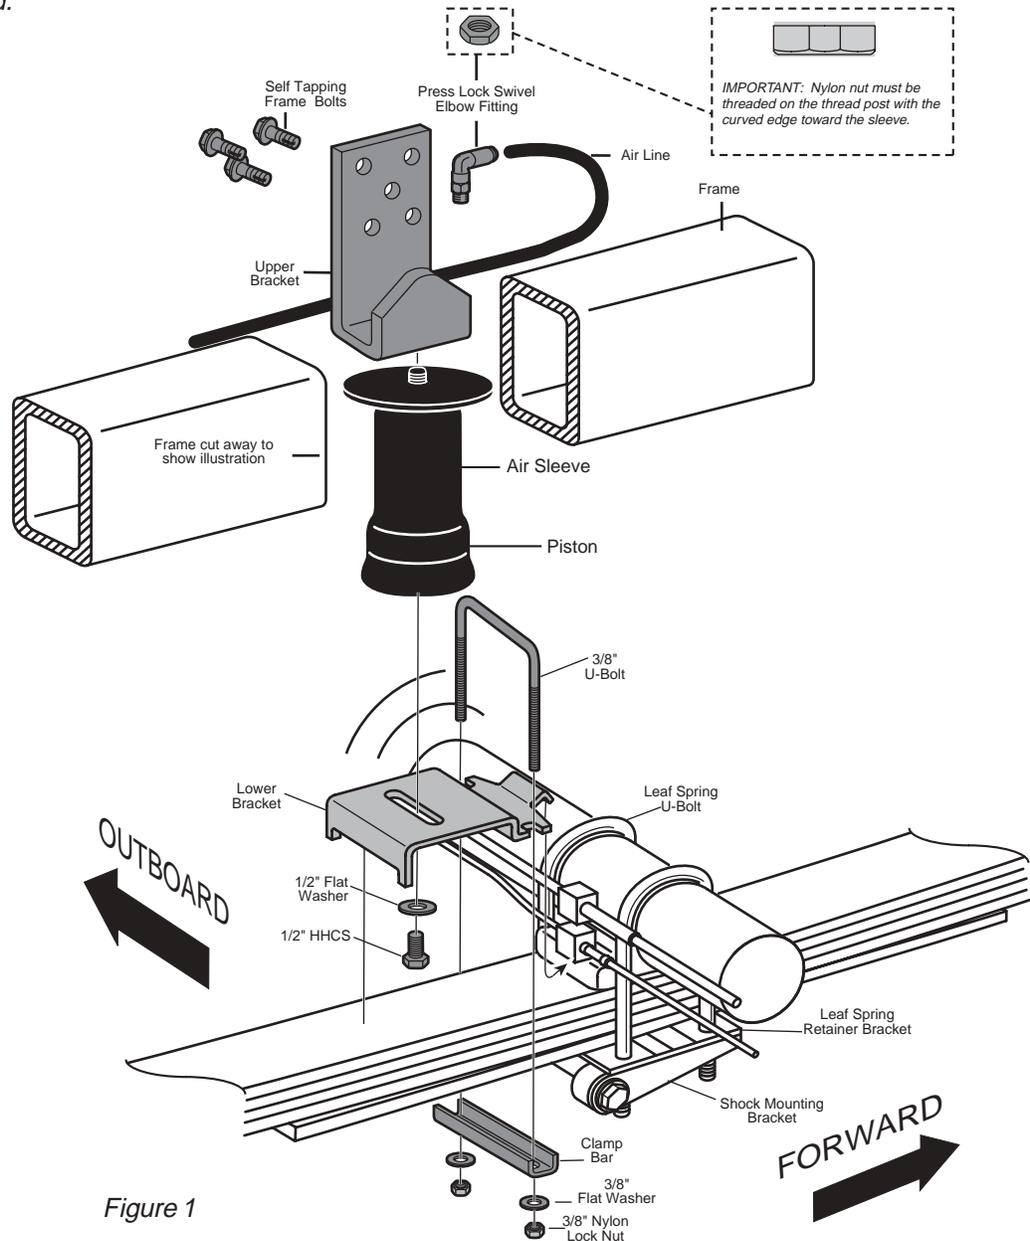
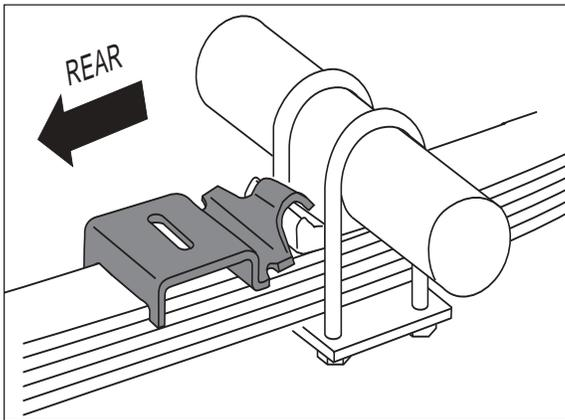
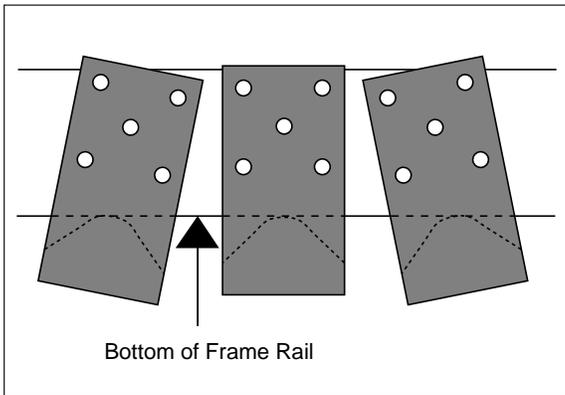
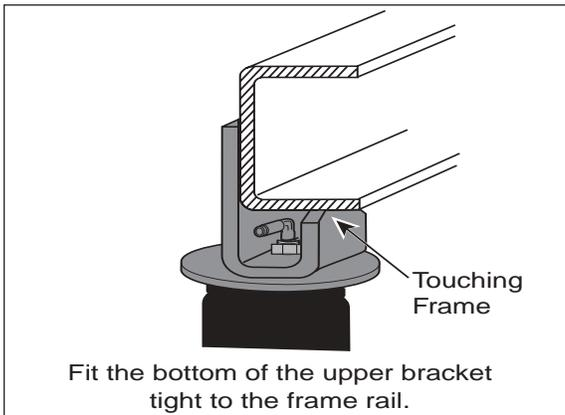

Figure 1
Figure 3
Figure 4
Figure 5
2. Thread the attached air fitting through the bottom of the J-bracket. Position the elbow towards the front or rear of vehicle depending on which direction will allow easier access for the air line (Figures 1 and 2). Slide the provided nylon nut over the air fitting and onto the threaded post. Tighten the nylon nut hand tight to secure the bracket (Figure 1).
3. **LOOSELY** attach the lower brackets to the bottom of the sleeve using the provided $\frac{1}{2}$ " flat washer and the $\frac{1}{2}$ " bolt as shown in Figure 1.
1. Set the assembly on the leaf spring behind the axle. Install the lower bracket as shown in Figures 1 and 3 over the edge of the upper spring retainer plate (Figure 3). Tighten nuts to 16 ft.lbs.
2. The upper bracket must be parallel and perpendicular to the lower bracket. The upper bracket is designed so that it can be "tilted" for the proper angle (Figure 4). The bottom of the upper bracket must fit tight to the bottom of the frame rail (Figure 5). It is necessary to use at least three of the five pre-drilled mounting holes in the upper bracket. Any combination of three is permissible. Using the bracket as a template, center punch and drill three $\frac{5}{16}$ " holes. The holes must be no larger than $\frac{5}{16}$ ". Attach the upper bracket using the Self-Tapping Frame Bolts. Tighten securely to 15 ft.lbs. (Figure 1). **DO NOT OVERTIGHTEN.**